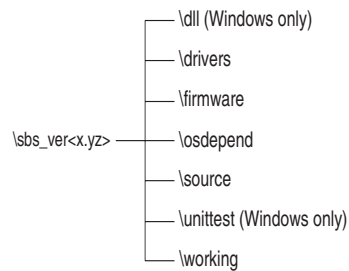

Figure 3.2.2: User Directory Structure
2. Create the SBS user directory structure shown in Figure 3.2.2 by adding `\working` and `\firmware` directories under the `\sbs_ver<x.yz>` directory, where `<x.yz>` is the version number of the current release.